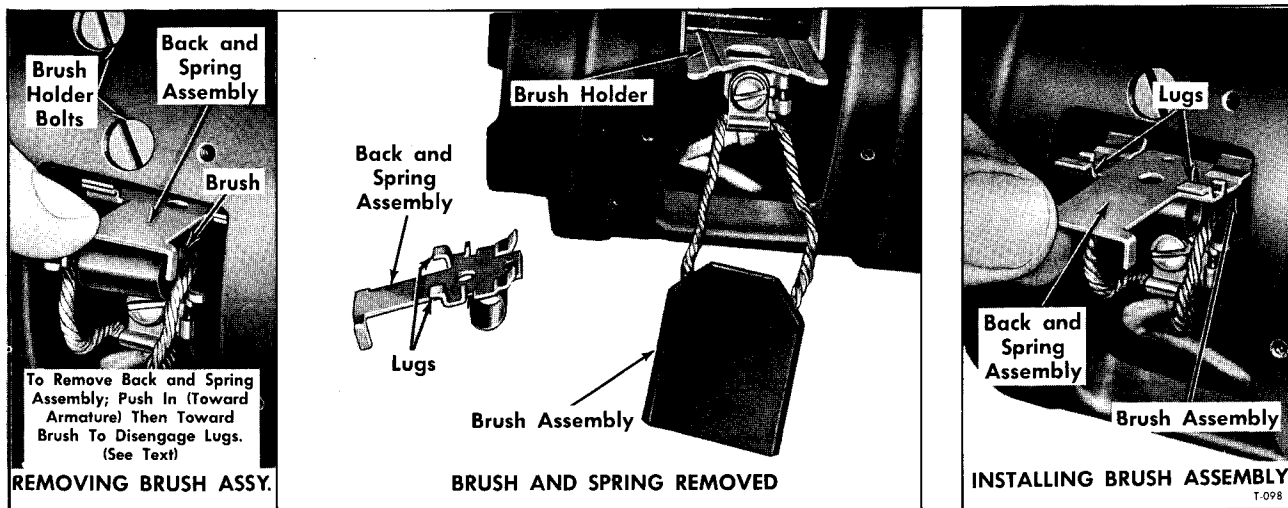
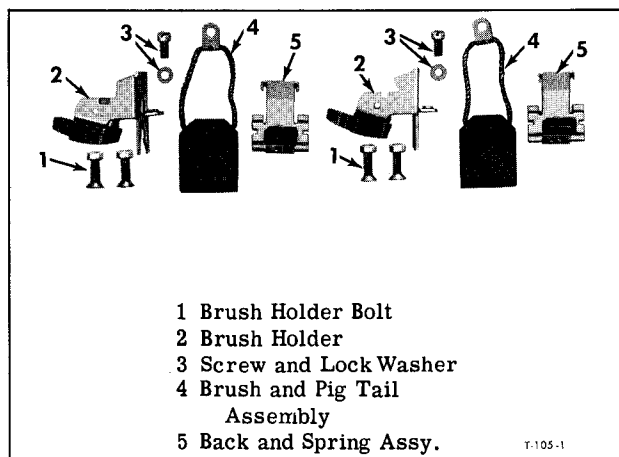

Figure 8—Replacing Blower Motor Brushes (Typical)
Figure 9—Brush Holders and Brushes Removed
NOTE: In an emergency the motor brushes can be replaced with motor installed. The brush cover plates (two on each motor) must be removed to gain access to brushes. Figure 8 shows typical procedure for removing the brushes from brush holder, while figure 9 shows brush holder, brushes and retaining parts. Screw and lock washer (3, fig. 9) must be removed to detach each brush from brush holder and leads.
3. Referring to figure 8, remove the back and brush spring assemblies and raise each brush out of holder. Remove the screw and lock washer holding brush heads to holders and remove brushes.
4. Remove three screws and lock washers (1) attaching retainer plate (29) to end frame, then remove plate and gasket (29 and 28), and bearing load spring (30) from end frame (25).
5. Remove two through bolts (3) which secure the end frames (21 and 25) to motor frame (24).
6. Tap end frames with soft hammer to loosen from motor frame. Remove drive end frame (21) with shaft and armature (15).
7. Place box-end wrench on nut (14), then grip motor shaft (15) at flat surface in vise with soft jaws. Loosen and remove nut (14), washer (13), fan (11), and collar and washer (16 and 17) from shaft. Withdraw armature and shaft assembly from drive end frame bearing (10). Light pressure on end of motor shaft (15) may be required to force shaft out of bearing.
8. Remove spacers (18) from shaft.
9. Remove bearing retainer plate screws (12), and remove inner and outer retainer plates (19 and 20). Remove bearing assembly (10) from drive end frame.
NOTE: Normally it is not necessary to remove pole shoes (23), field coils (22) or brush holders (fig. 9) from the motor frame unless inspection indicates necessity for replacement of these components.